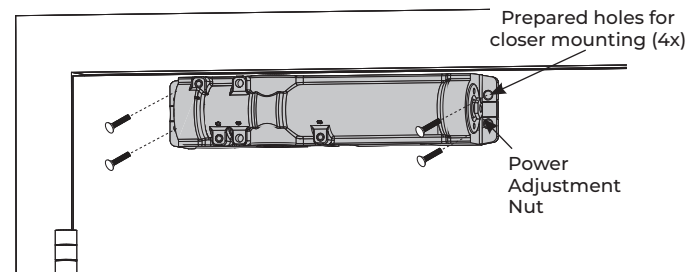

Figure 2
4. Using the appropriate hardware per the Supplied Hardware chart on page 2, fasten the closer body to the door with the power adjustment nut toward the lock edge of door. (Figure 2)